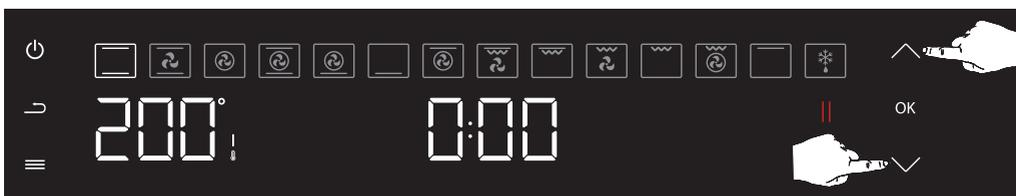

Figure 15
2. In the “Cooking” menu, the display of the active setting first changes to the cooking functions, which can be switched between by pressing the direction keys up (⬆) or down (⬇). (see figure 15) Press the confirm button (OK) once to select the desired cooking function.